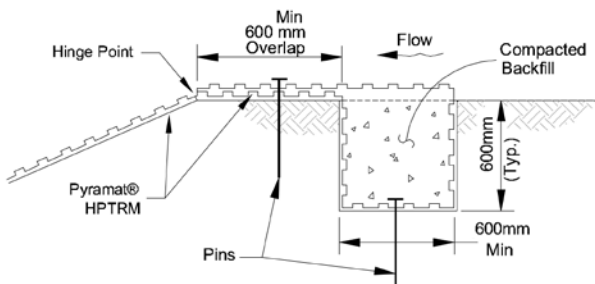

FIGURE 8: TERMINAL TRENCH (UPSTREAM) DETAIL
- Excavate terminal trench 600mm wide x 600mm deep, minimum 600-900mm over crest of bank (see Figure 8)
- Pin, backfill and compact end of mat in terminal trench (see Figure 8). Terminal trench pinning devices should be spaced on 300mm centers (see Figure 8). Unroll mat in downstream direction over compacted trench with a minimum 600mm lap. Secure lap with pinning devices on 300mm centers.